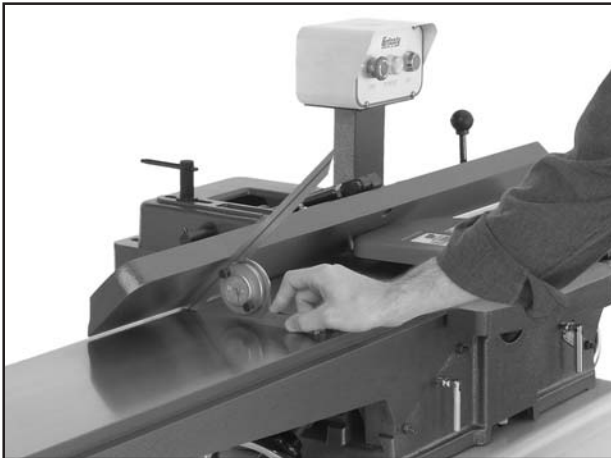

Figure 44. Typical 45° inward fence adjustment.
1. Using a 45° square, adjust the fence to the 45° inward position, as shown in **Figure 44**.